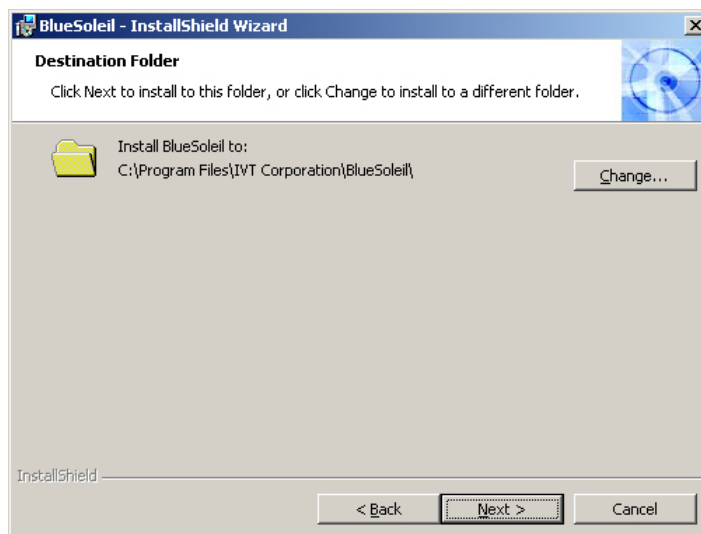

Figure 7-50: Bluetooth Driver Destination Folder
Step 14: The **Destination Folder** screen in Figure 7-50 appears next. Confirm the destination folder to install the Bluetooth driver.